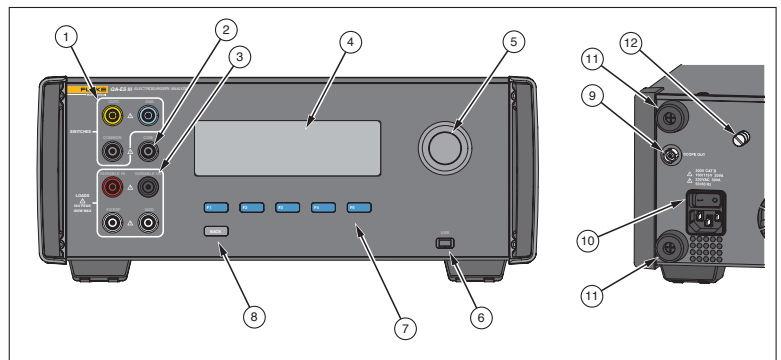

Figure 1. Product controls and connections
Chassis grounds of the ESU and QA-ES III (item 12 on Fig 1) shall be connected using one of the 1-meter safety test leads supplied with the QA-ES III. Supplied alligator clips can be used as necessary to clip on to the ESU chassis ground lug—typically found on the rear of the instrument.